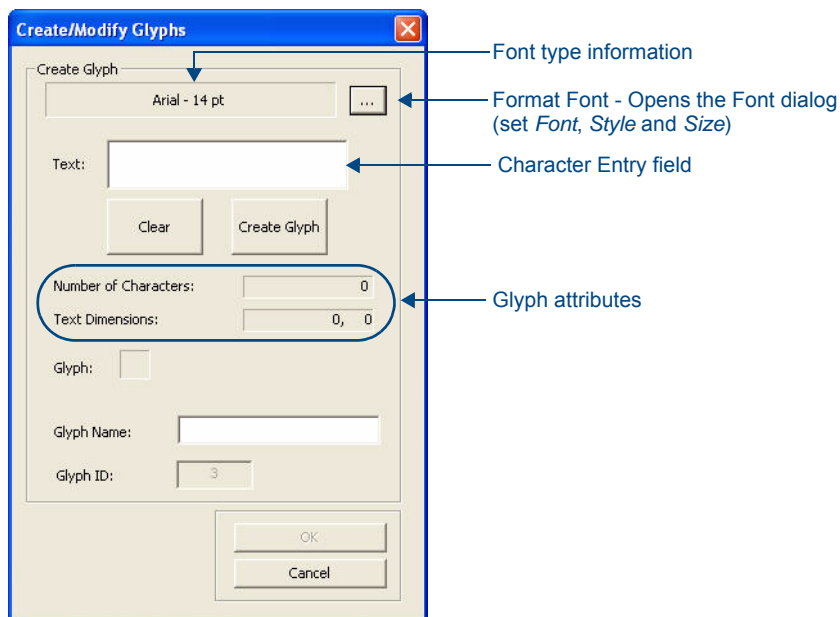

FIG. 12 Create/Modify Glyphs dialog
2. Click **New Glyph** to access the *Create/Modify Glyphs* dialog (FIG. 12).